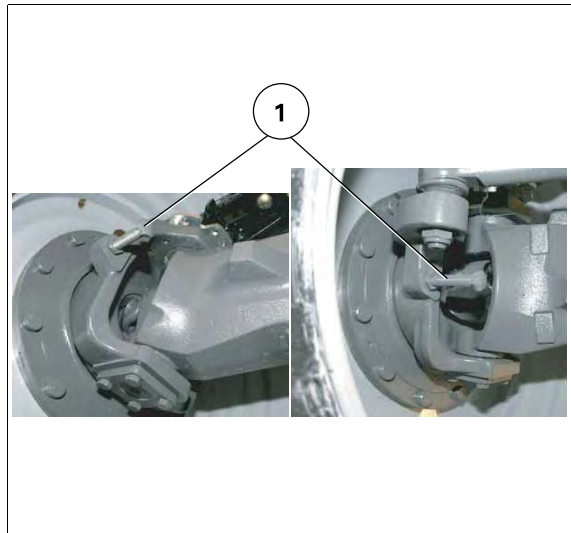

Fig. 2.
NOTE: With narrow track widths and with certain tire fittings, the wheels may touch the hood when turning at maximum lock. To prevent this contact, the hubs are fitted with threaded stops (1) fig. 2 that can be adjusted to limit the steering angle.